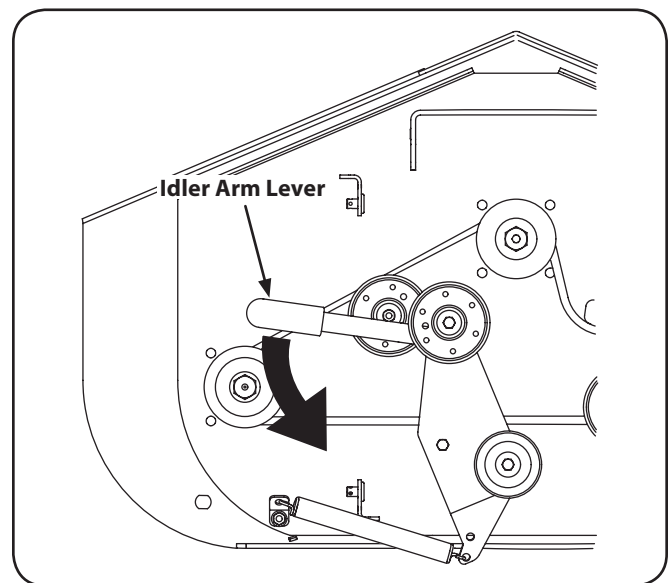

Figure 7-2
3. Reduce the tension on the PTO belt by moving the idler arm lever toward the back of the tractor, then remove the belt from the pulley. See Figure 7-2.